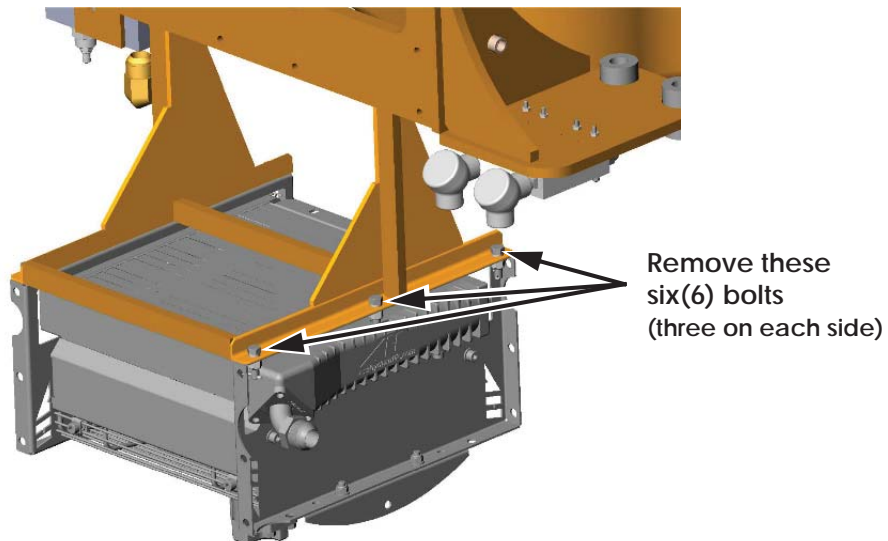

Figure 1: Remove Six (6) Bolts
4. Remove the six (6) bolts holding the cooler to the cooler bracket as shown in Figure 1 below.